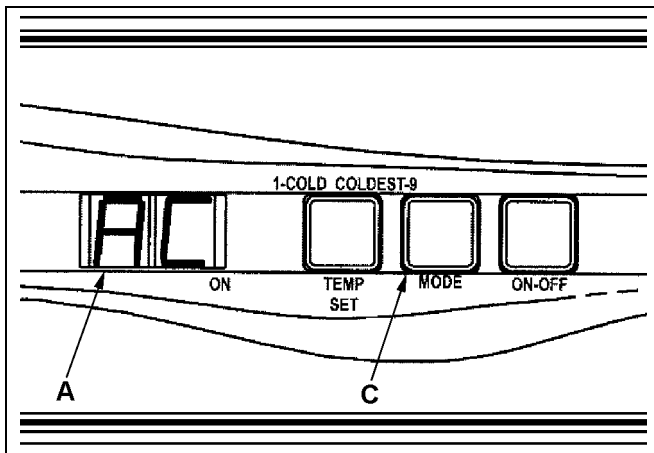

Figure 9-10 – Manual 110 Volt Operation
- Push and hold the mode button (C) until “AC” is shown in the display (A). Release the mode button. After ten seconds, the display will go off and the green power on light will be illuminated. The refrigerator is operating on 110 volt AC power. See figure 9-10.